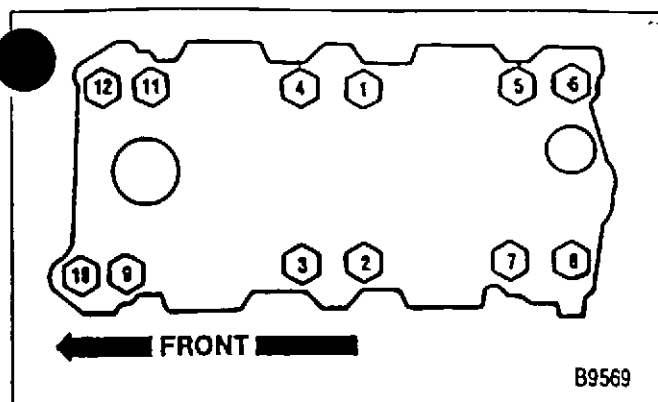

Figure 95—Intake Manifold Bolt Tightening Sequence (5.0L and 5.7L Engines)
- Bolts (19) and studs (20) to 47 N.m (35 lbs. ft.) using the tightening sequence shown in figure 95.